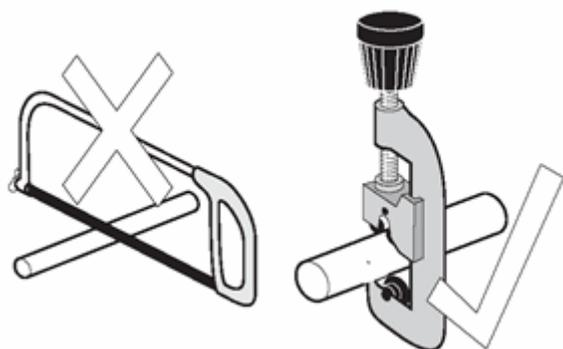

Figure 10 Cutting pipes
5.12 Cut all necessary pipework to length with a pipe cutter and not a hacksaw. This will minimise the swarf and prevent damage to the sealing o-ring in the pushfit fitting - see figure 10.